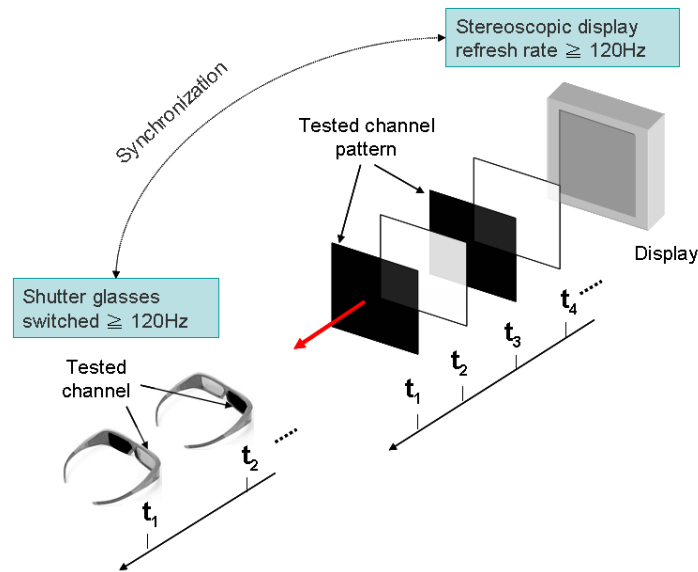

Figure 1
4.2.4 *system white crosstalk (SWC)* — system crosstalk while the tested channel patterns is full-screen black and the un-tested channel patterns is full-screen white (shown in Figure 1).